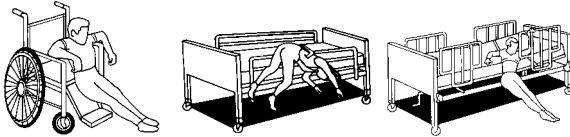

Fig. 47
**If straps cross over sensor pad and patient moves, pressure from straps may prevent alarm from activating. If patient falls out of bed or chair and is suspended in the restraint, serious injury or death may occur from chest compression or suffocation (fig. 47).**